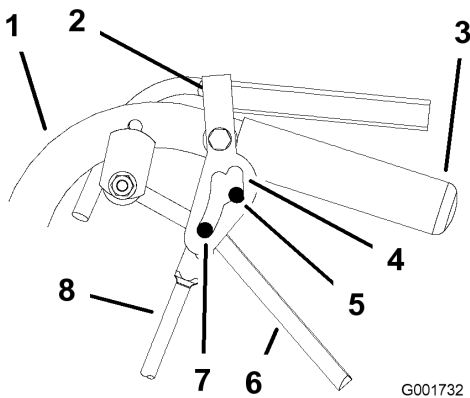

Figure 42
- Release and engage neutral lock checking that the tire does not rotate (Figure 42). Continue this process until the tire does not rotate.